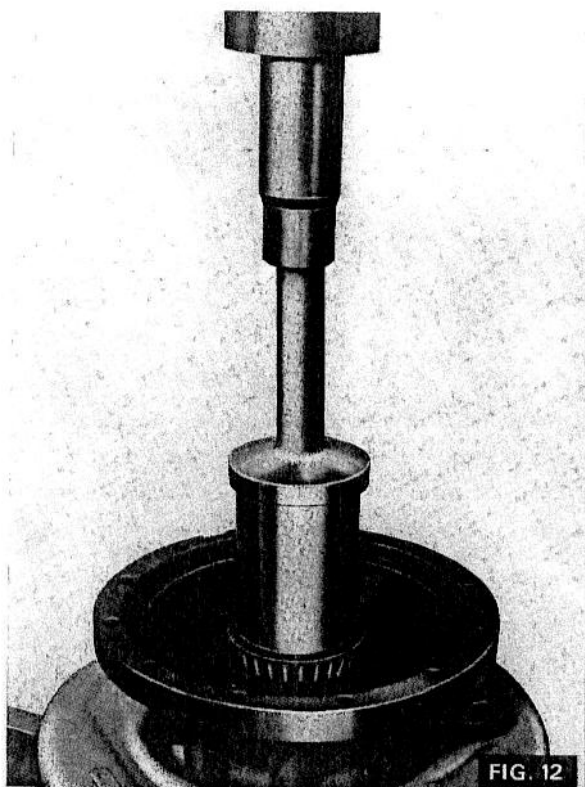

FIG. 12
3. (Fig. 12) Position the taper roller bearing squarely in place on the axle shaft and, with a suitable press, push the bearing fully home.